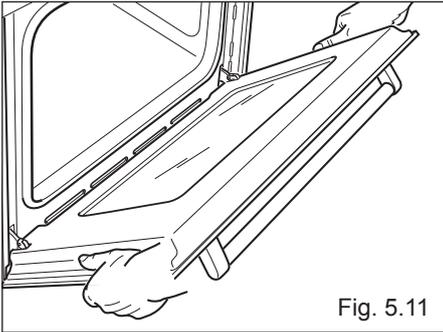
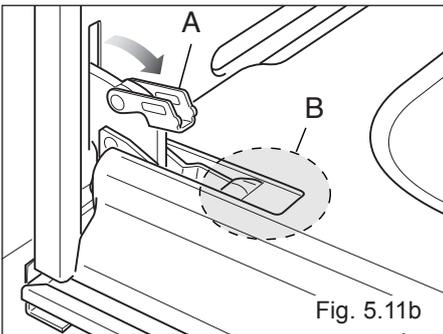

Fig. 5.11
Fig. 5.11b
- Open the lever “A” completely on the left and right hinges (fig. 5.11b).
- Hold the door as shown in fig. 5.11.
- Gently close the door (fig. 5.11) until left and right hinge levers “A” are hooked to part “B” of the door (fig. 5.11b)
- Hold the door firmly (fig. 5.11).